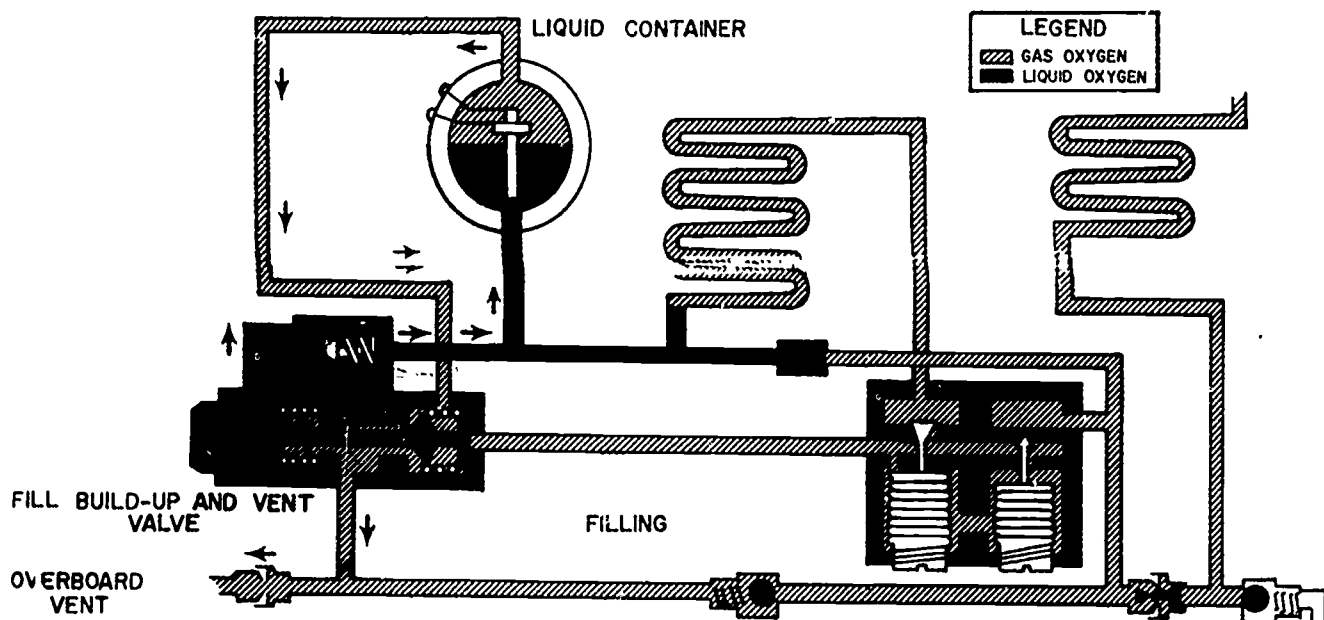

Figure 12.
Now that you are familiar with the dual function valves used in this type of system, let's discuss the operation of this system (see figure 12). In order to fully understand what is taking place within the system, it is necessary to look at the system in three (3) different phases of operation. The first phase is FILLING and this is shown below. When the nozzle from the servicing trailer is connected to the fill, build-up and vent valve, the plunger in the valve is pushed in as shown. This closes the build-up line and provides an open line to the overboard vent. Any pressure in the system is now vented overboard. When the liquid oxygen enters the valve, it unseats the fill check valve and goes into the container through the bottom. When the container is full, liquid flows out the top of the container, back through the valve and out the overboard vent. At this time, the nozzle from the servicing trailer is removed and this automatically places the system in the build-up phase.